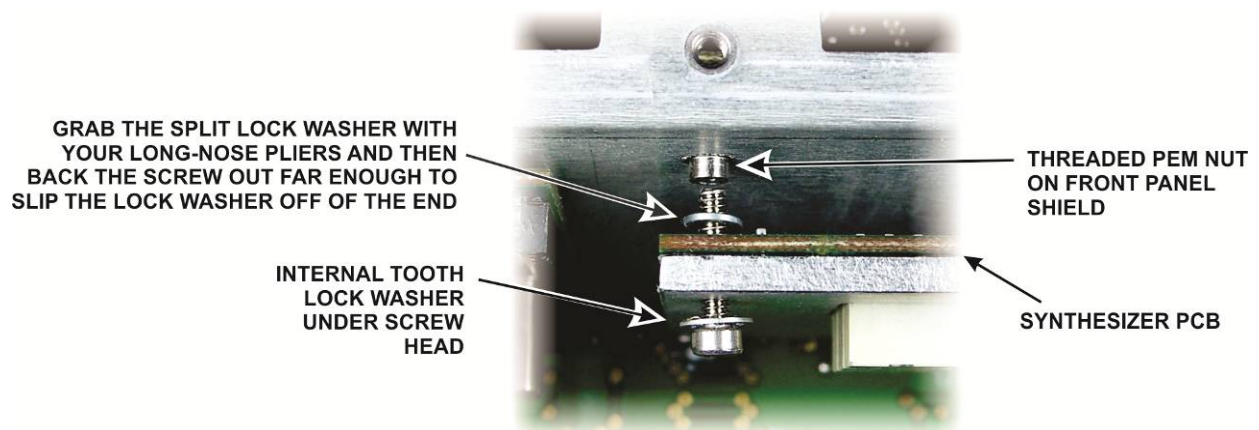
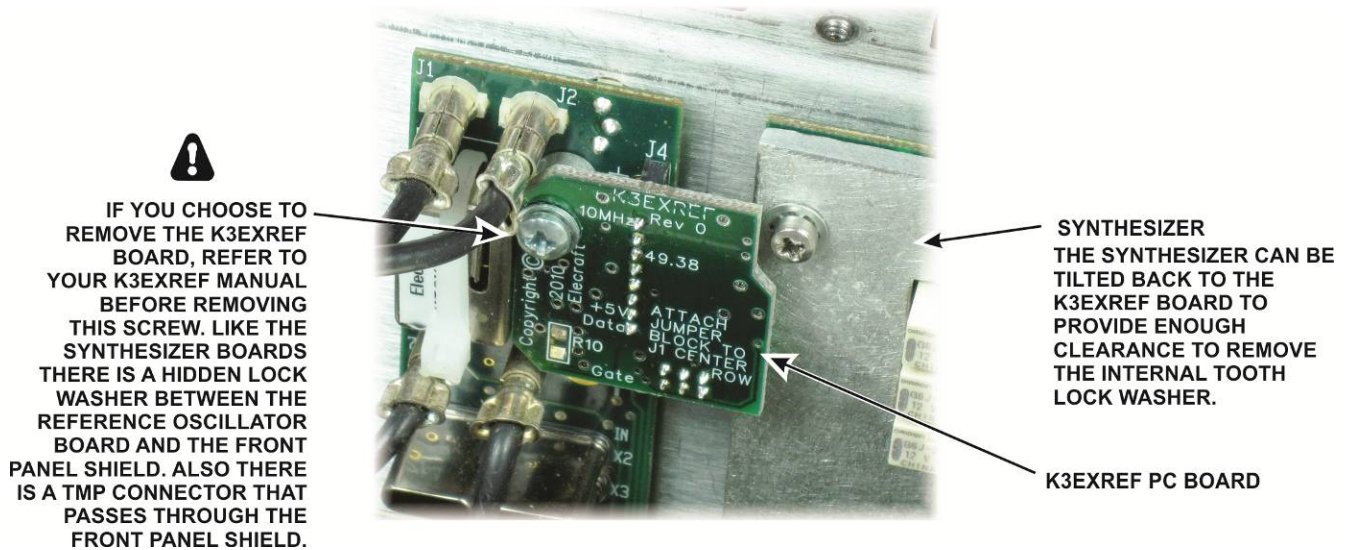

Figure 7. Removing Synthesizer Mounting Screws.
Figure 8. K3EXREF Board Option.
4. Small needle nose pliers or tweezers for holding small parts in tight spaces (see Figure 7 on page 10).
Loosen the two mounting screws at the top of the synthesizer board. Do not remove the screws completely until you have loosened both of them and located the lock washer between the pc board and the front panel shield. Slide the split-ring lock washer on each screw toward the pc board and then carefully finish unscrewing each screw (see Figure 7) Once the screw is clear of the threaded PEM nut on the front panel shield you can carefully grab the split ring lock washer with your needle nose pliers and remove it, then remove the screw and remaining lock washer. It helps to remove both screws a few turns at a time so you have the greatest amount of room to reach in and grab the lock washer while the other screw is still partially threaded into the PEM nut. If your K3 is equipped with the K3EXREF option, the distance you can pull the synthesizer away from the front panel shield is limited but there is still adequate clearance (see Figure 8).